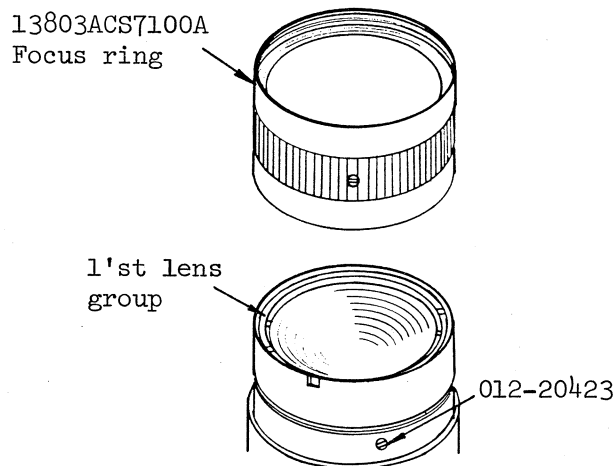

Fig. 4-4
2. Remove the focus ring(13803ACS7100A) and loosen the three screws (3 x 012-20423) which set the 1'st lens(Top lens) group. Refer to Fig. 4-4.